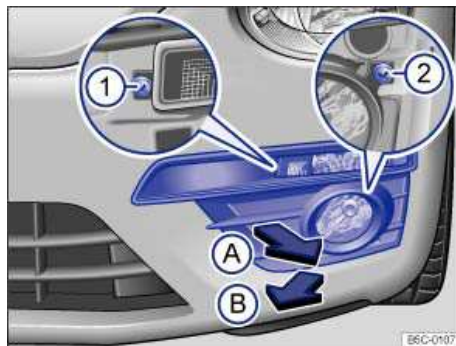
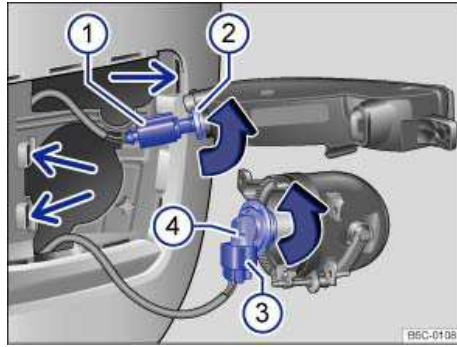

Fig. 175 In the left side of the front bumper: Removing the headlight.
Fig. 176 Replacing the bulb in the headlight.
Front turn signal ⇒ fig. 176 (2)	Fog light / cornering light (4)
2.	Starting at the inside, pull the cover forward slightly by the fins until the retainers release ⇒ fig. 175 (arrow (A)).
3.	Pull the cover out of the side mounts in the direction of the arrow (B).
4.	Remove the screws (1) and (2) using the screwdriver in the vehicle tool kit
5.	Tilt the light forward slightly and remove it from the side mounts ⇒ fig. 176 (small arrows).
6.	Release the connector (1) and disconnect it.	Release the connector (3) and disconnect it.
7.	Turn the bulb holder (2) in the direction of the arrow until it stops and remove it toward the rear with the bulb.	Turn the bulb holder (4) in the direction of the arrow until it stops and remove it toward the rear with the bulb.
10.	Attach the connector (1) to the bulb holder (2). The connector must latch with a "click."	Attach the connector (3) to the bulb holder (4). The connector must latch with a "click."
12.	Tighten the screws ⇒ fig. 175 (1) and (2) with the screwdriver.
13.	Beginning at the outside, insert the cover into the bumper opposite the direction of the arrow (B).